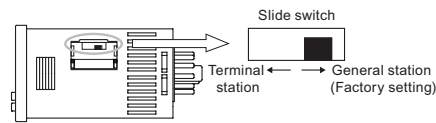

Fig. 3
- With a terminal station, RS485 "E" and RS485 "-" should be shorted. [For KW4M Eco-POWER METER, change the slide switch on the side of main unit as a terminal station. (Fig. 3)]